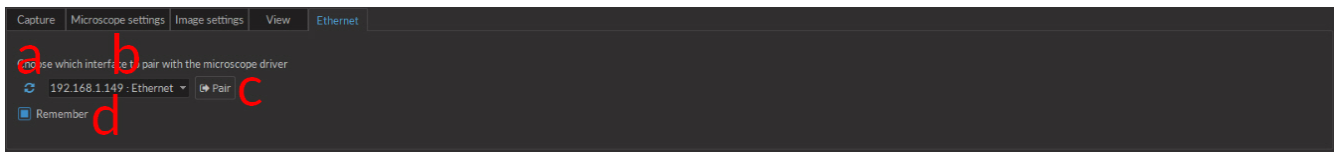

Figure 4.9: Microscope Ethernet Tab
- a) The **Refresh** button (Fig. 4.9) will identify any accessible IP addresses and add them to the drop-down list.
- b) The **Ethernet** drop-down list (Fig. 4.9) includes all IP addresses connected to an ethernet adapter. The proper one must be selected to properly connect the microscope.
- c) The **Pair** button (Fig. 4.9) connects the software to the driver.
- d) The **Remember** checkbox (Fig. 4.9) will keep the chosen IP address so that the chosen microscope driver will be connected automatically next time the software is opened.